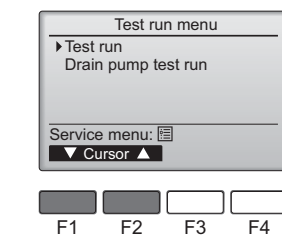

Fig. 7-4
④ Select "Test run" with the [F1] or [F2] button, and press the [SELECT] button. (Fig. 7-4)